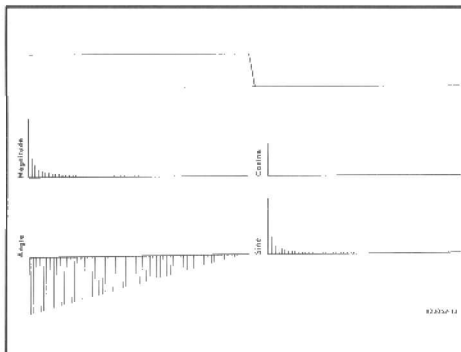

Fig. 8. Fourier plot of square wave.
*Wave VIII* is a square wave as produced by, for instance, a multivibrator oscillator. By inspection, the average value is half the amplitude for a 50% mark-space ratio. The fundamental is equal to twice the amplitude divided by  $\pi$ . Only odd harmonics (all cosine terms are zero) are present owing to the nature of the wave. A low-pass filter with a transfer function equal to zero at high frequencies will by-pass high-order harmonics but will introduce phase distortion in the output. Fourier analysis is plotted in Fig. 8.